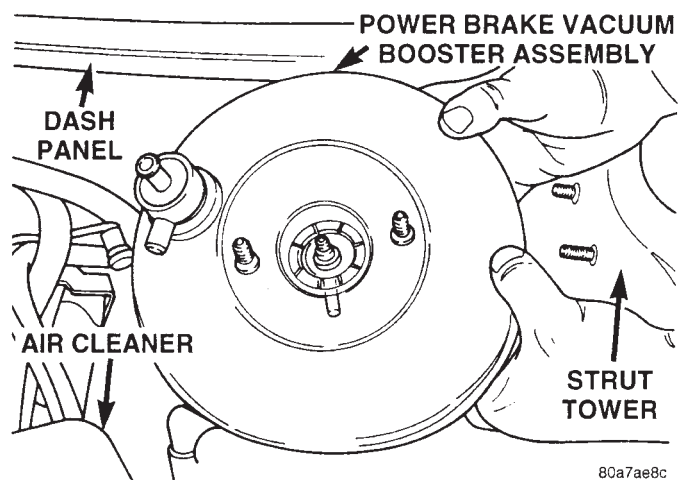

Fig. 100 Vacuum Booster Removal
(14) Slide vacuum booster forward until mounting studs clear dash panel and then tilt up and rotate toward center of vehicle to remove (Fig. 100).